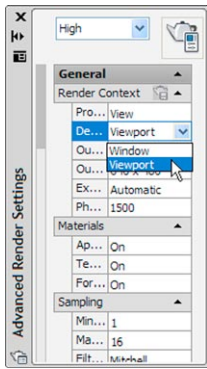

Fig. 15.19 The Advanced Render Settings dialog
7. *Enter* **rpref** at the command line. The **Advanced Render Settings** palette appears. In the palette, in the **Render Context** field *click* the arrow to the right of **Window** and in the popup menu which appears *click* **Viewport** as the rendering destination (Fig. 15.19).